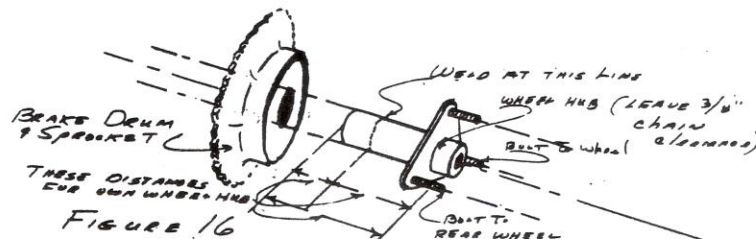

FIGURE 16
12. Weld the brake drum and sprocket assembly to the hub of the rear wheel as shown in Figure 16 below. Before welding check to make sure that you have $3/8"$ clearance between the sprocket and the tire. Bolt the hub to the rear wheel.